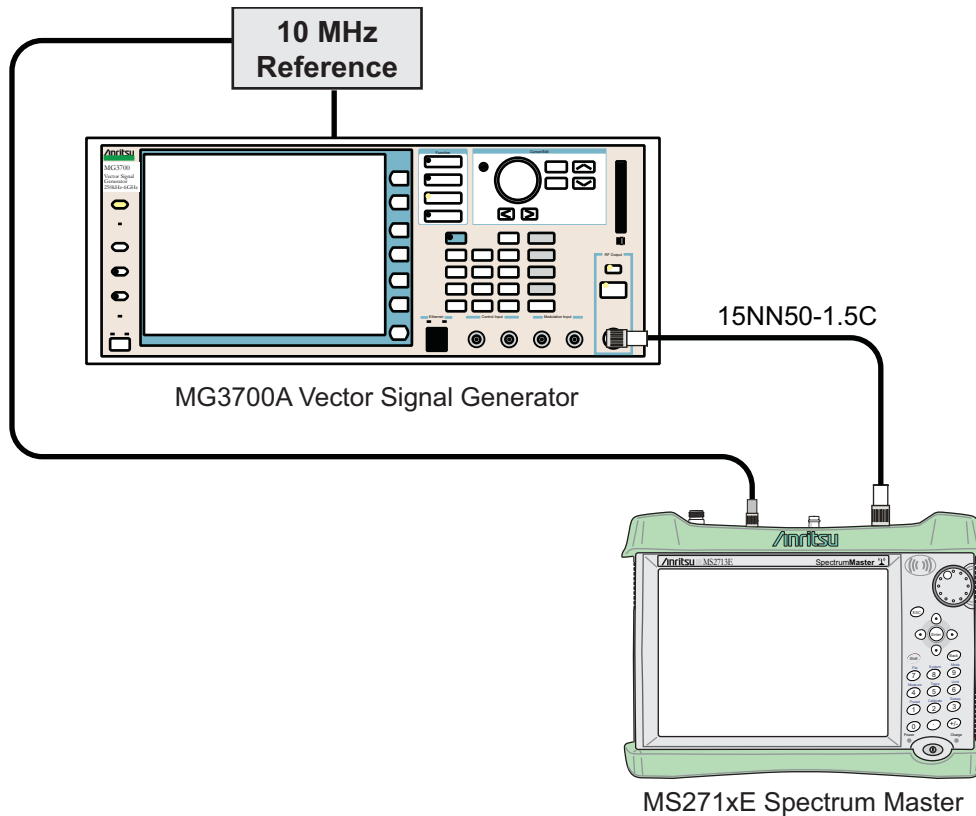

Figure 4-14. Frequency Accuracy and Residual MER Verification
1. Connect the 10 MHz External Reference signal into the MG3700A and Spectrum Master as shown in Figure 4-14 on page 4-64.
1. Connect the 10 MHz Frequency Reference source to the Anritsu MG3700A and Spectrum Master as shown above in Figure 4-14 on page 4-64.